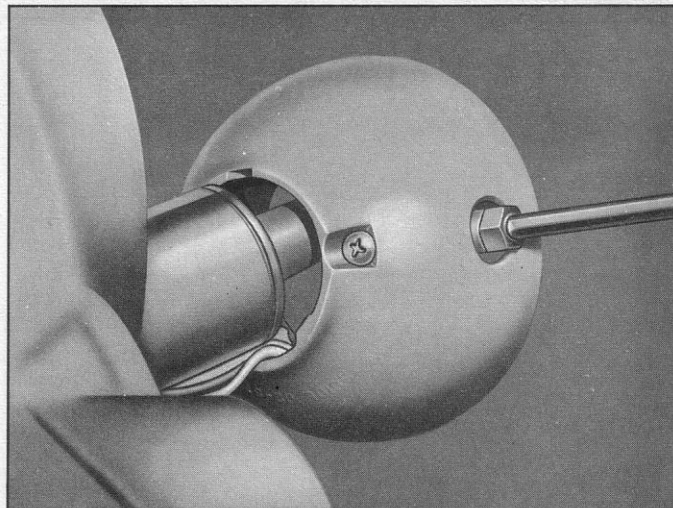

Fig. 10—Turn Signal Housing and Retainer Screw
- remove housing and wiring from mast jacket (fig. 10).